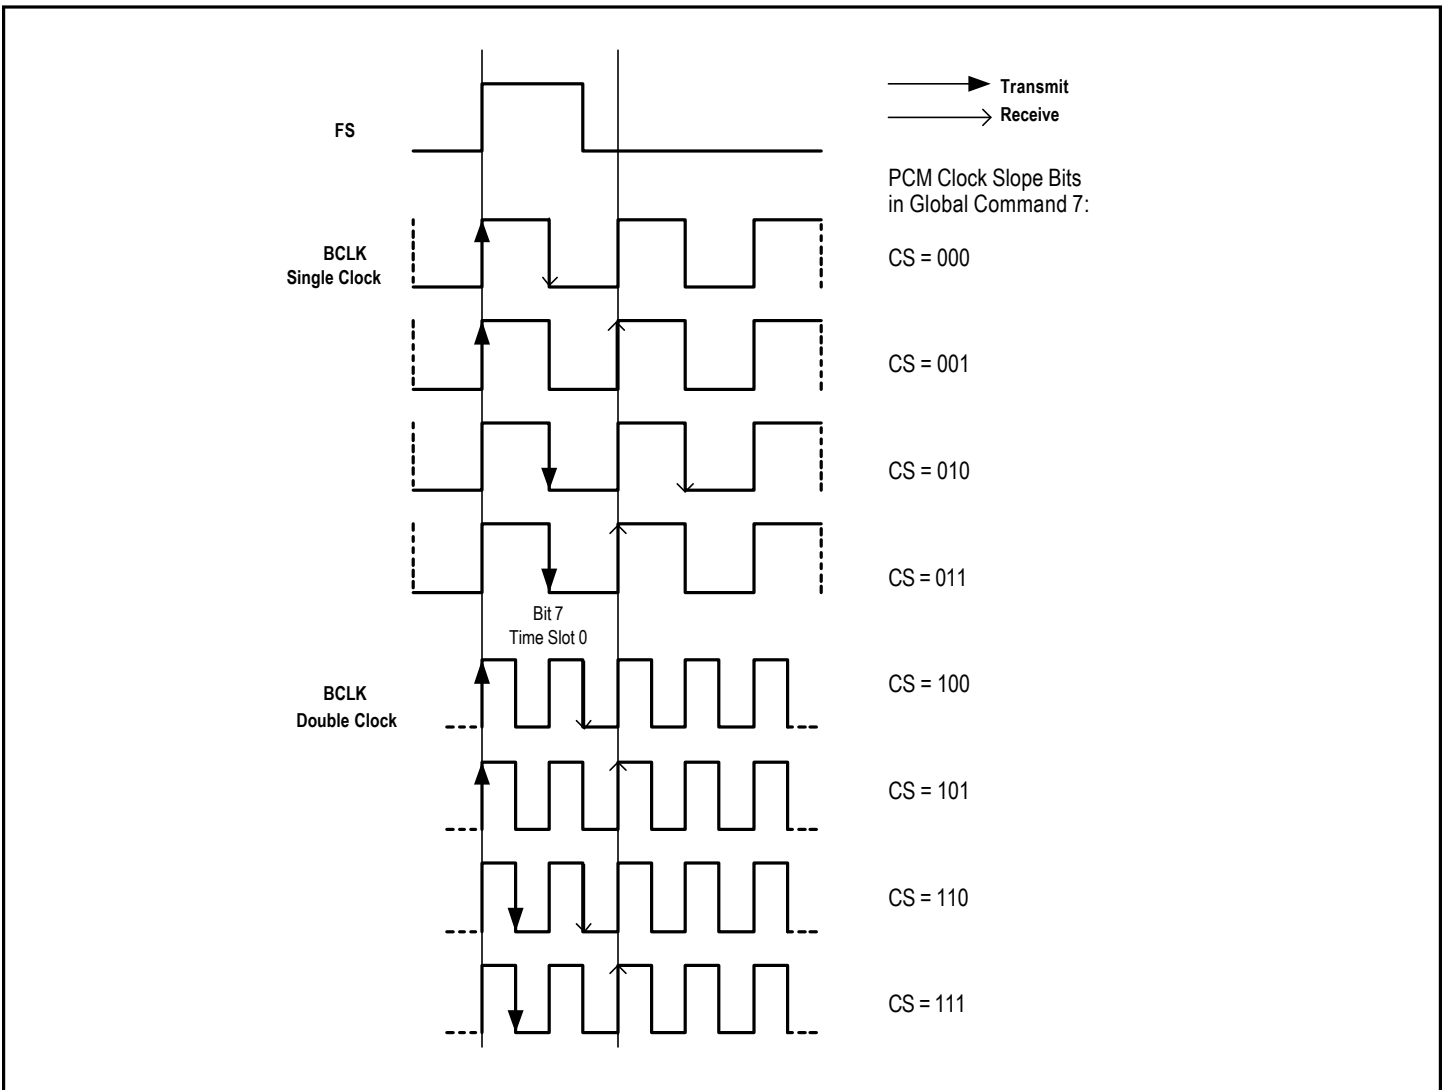

Figure 3. Sampling Edge Select Waveform
In MPI mode, IDT821068 provides two flexible PCM buses for all 8 channels. The digital PCM data can be compressed (A/ μ -law) or linear format, which is determined by the DMS bit in Global Command 7. The data rate can be configured as same as Bit Clock (BCLK) or half of it. The data can be transmitted or received either on BCLK rising edges or on falling edges. The data transmit and receive time slots can be offset from Frame Synchronization (FS) by 0 BCLK period to 7 BCLK periods. See Figure 3. All the selections are implemented by Global Command 7, which is configured for all 8 channels.